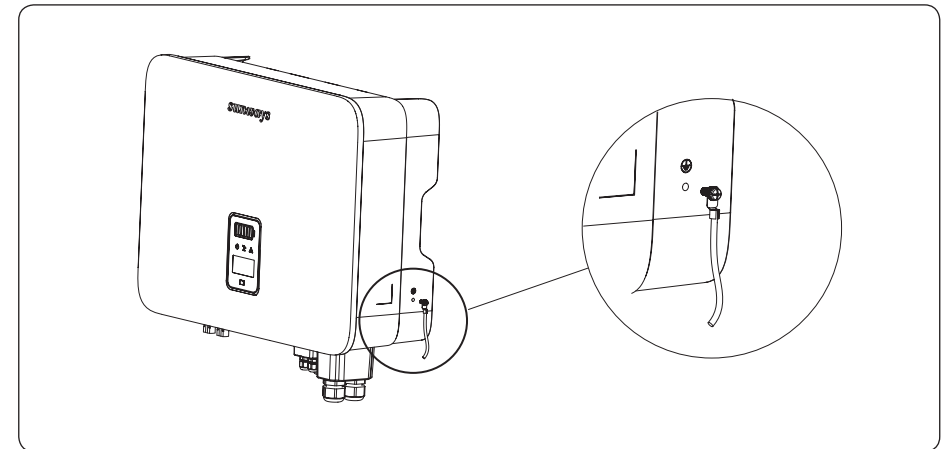

Figure 4-11 Grounding terminal connection
- 2) Fix the grounding terminal to the PE wire with a proper tool and lock the grounding terminal to the grounding hole in the lower right side of the inverter. As shown in Figure 4-11: